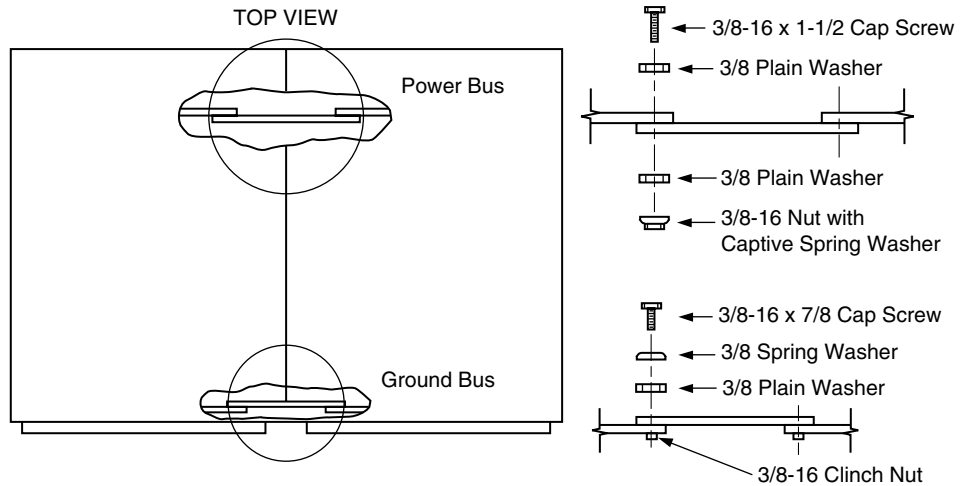

Figure 6 Power and Ground Bus Coupling
- Tighten each 3/8" bolt (power and ground bus, Figure 6) to 250 lb-in